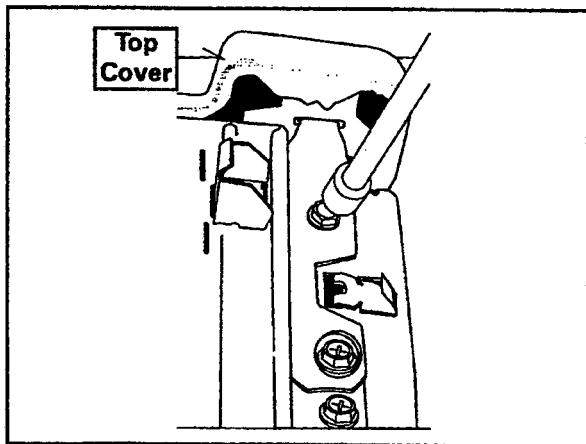

**Figure 2-9**
4. To remove the front panel, twist the upper right and left panel extensions inward to disengage from clips located on the cabinet flange (*Figure 2-9*).